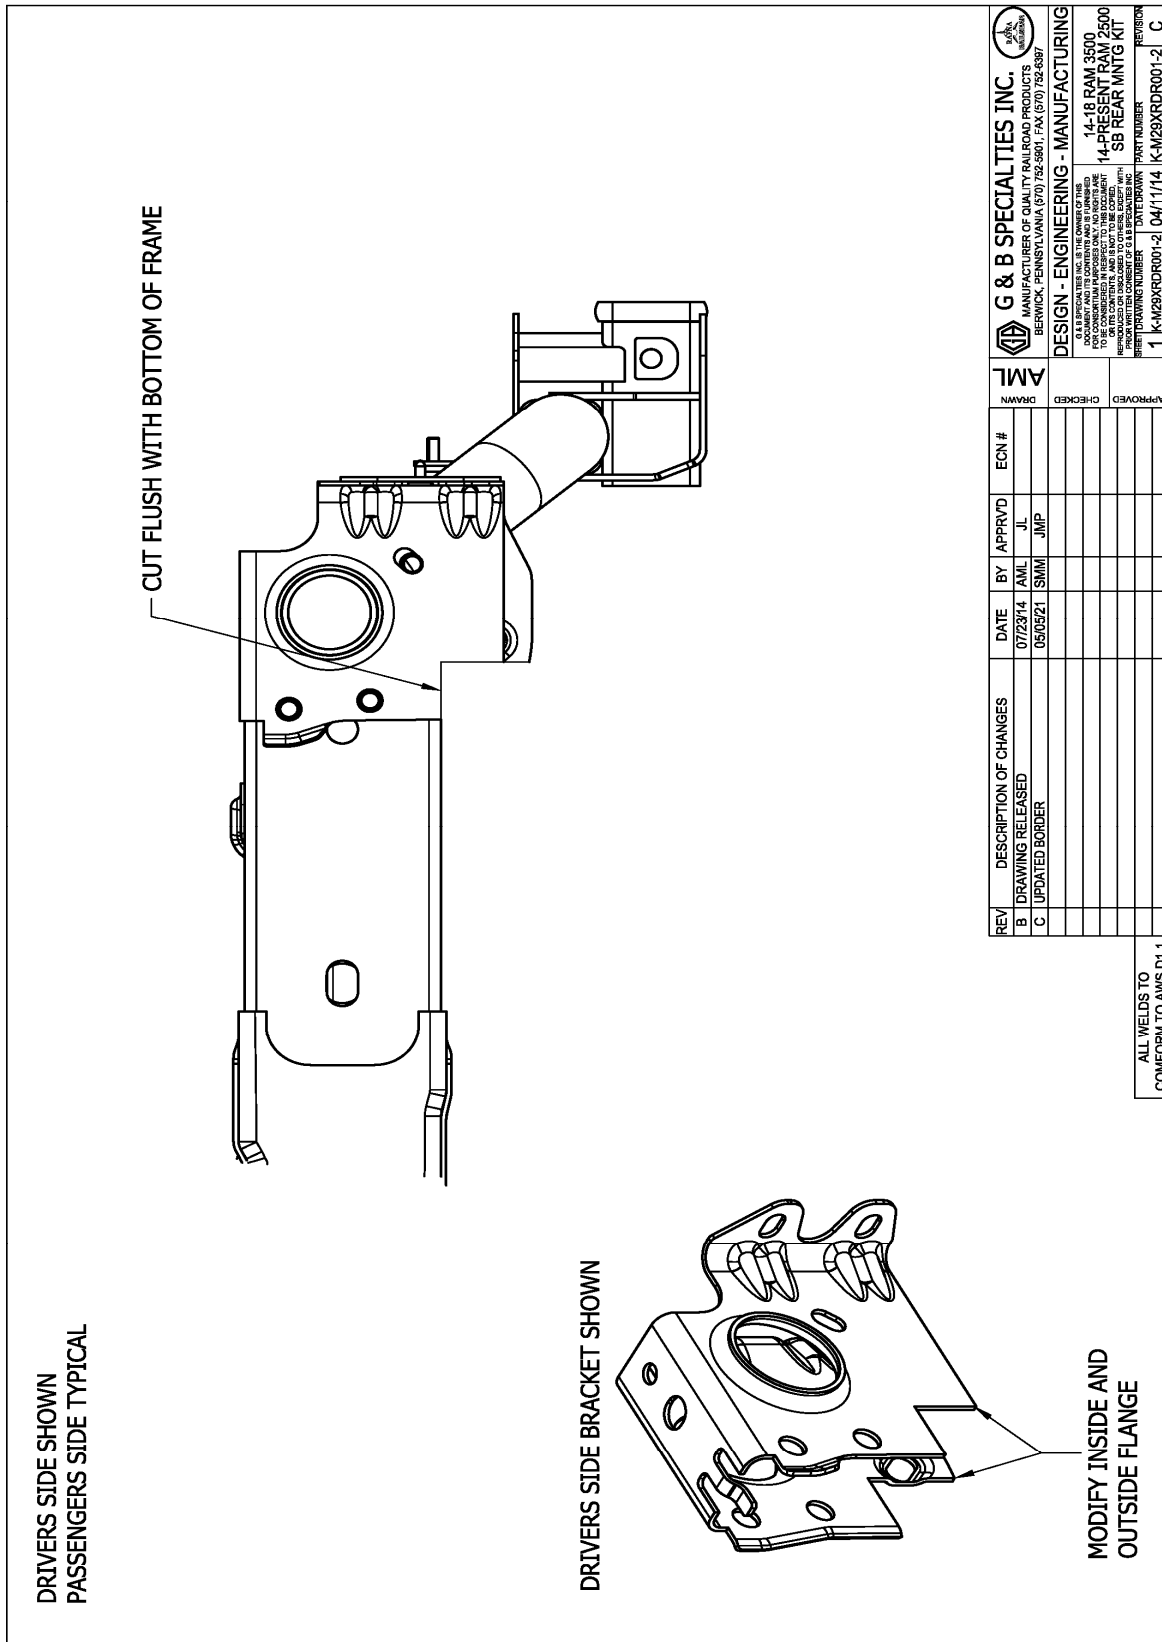

Figure 2 (2500/3500)
5. Modify the tow hitch mounting brackets as shown. (figure 2)